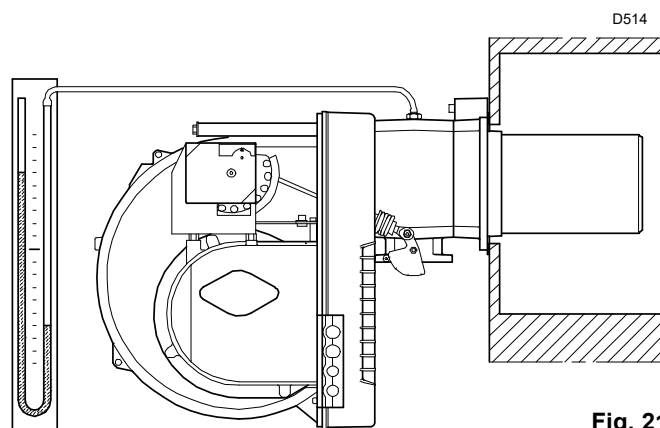

Fig. 21
- Fit a U-type pressure gauge (Fig. 21) to the gas pressure test point on the pipe coupling.
The arrival of gas to the sleeve is indicated by the U-type pressure gauge (Fig. 21 on page 23).
A rough indication can be obtained from tables on page 5, just read the gas pressure on the U-shaped pressure gauge, see Fig. 21 on page 23, and follow the instructions given in page 19.